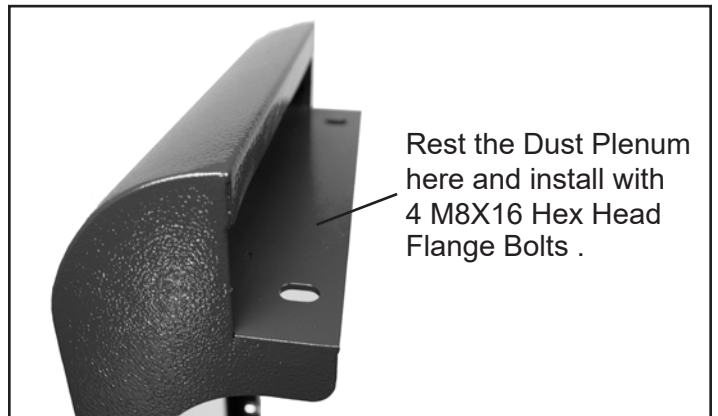
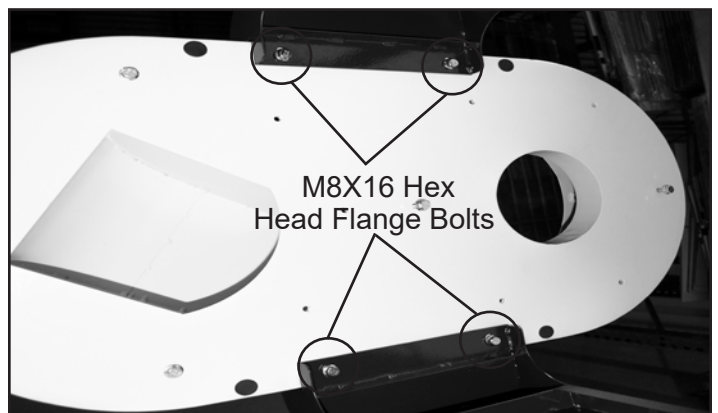

FIG. 7
FIG. 8
2. Lift the Dust Plenum and rest on the ledge (Fig. 7) of the Support Panel Assembly and secure with 4 M8X16 Hex Head Flange Bolts (Fig. 8). Make sure the Cyclonic Separator is overhanging the open section of the baseplate (A-Fig. 4). Underside of the Dust Plenum shown Fig. 8.